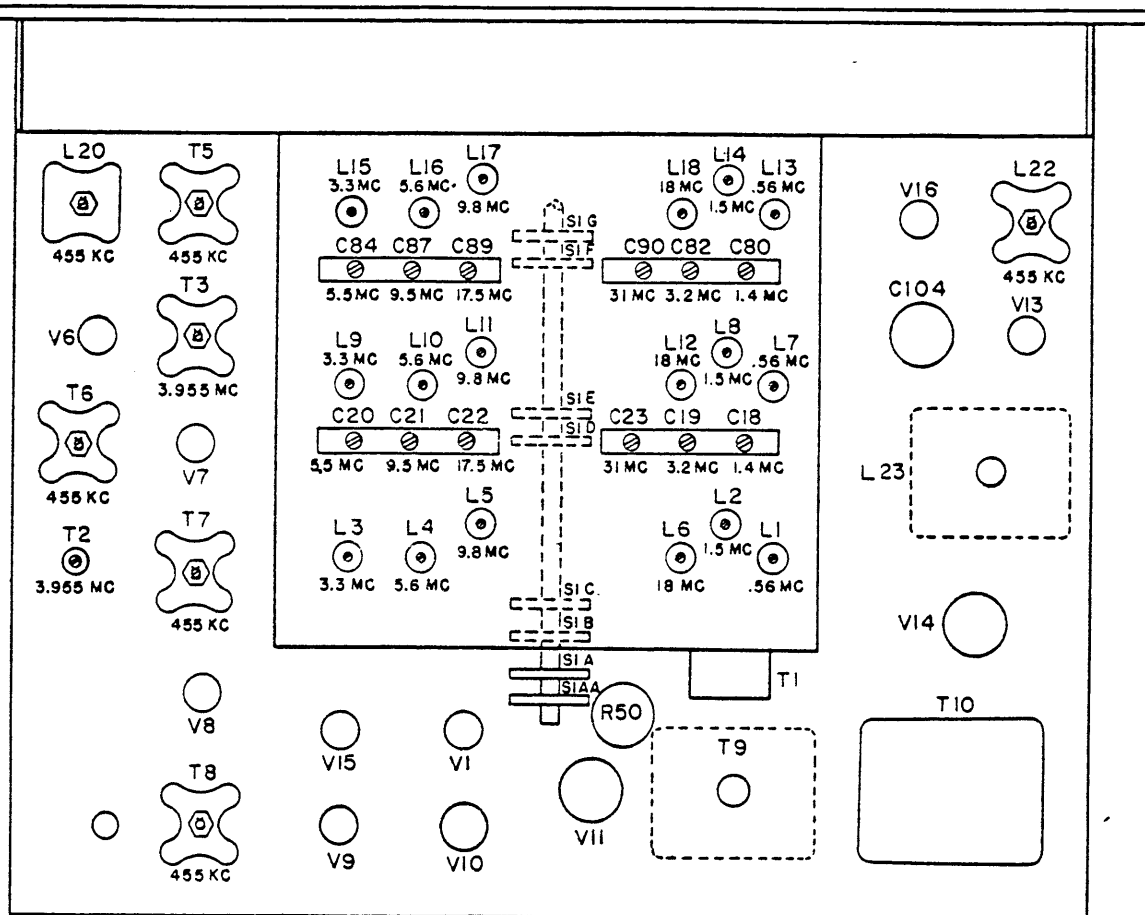

Figure 4-4. Receiver Chassis, Bottom View
c. Plug headphones into PHONES jack and adjust coil L22 (Figure 4-4) for zero beat.
4-20 In aligning the r-f section of the receiver, the lowest frequency band is aligned first, followed by the next higher band, and so forth. The location of each part adjusted during r-f alignment, as well as the frequency band covered by that adjustment, is shown in Figure 4-4.